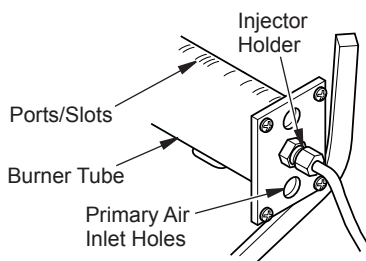

Figure 67 - Injector Holder On Outlet Burner Tube
2. Inspect burner, pilot, and primary air inlet holes on injector holder for dust and dirt (see Figure 67).